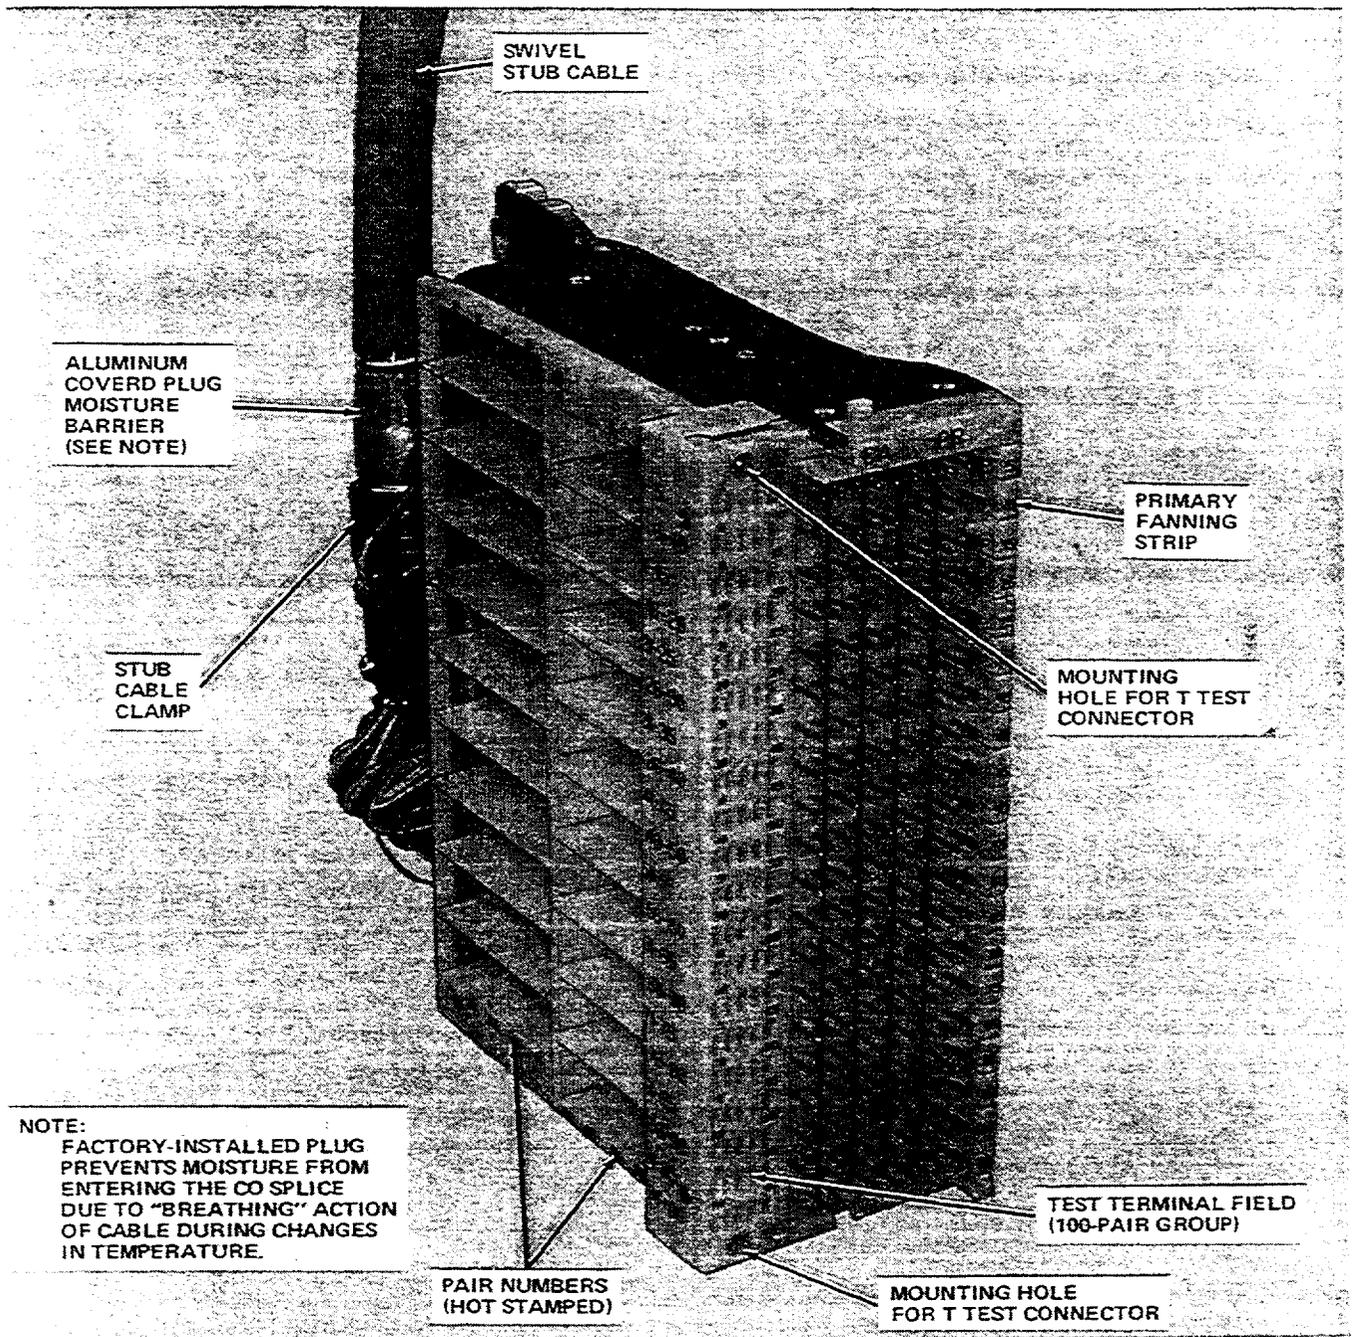

Figure 6. 310M-Type Connector — Left Side View
**2.07** Table A lists the applications, codes, and specifications of the 310-type connectors. Figure 6 shows the 310M-type connector and Table B lists the applications, codes, and specifications of the 310M-type connectors.